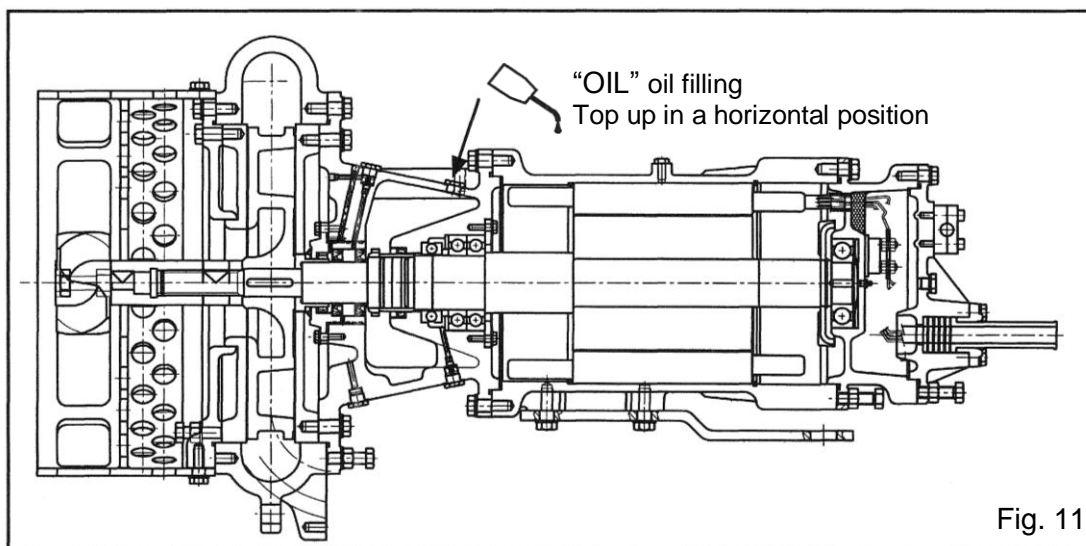

Fig. 11
- The pump must be placed in a horizontal position, keeping the plug marked "OIL" pointing up (Fig. 11).